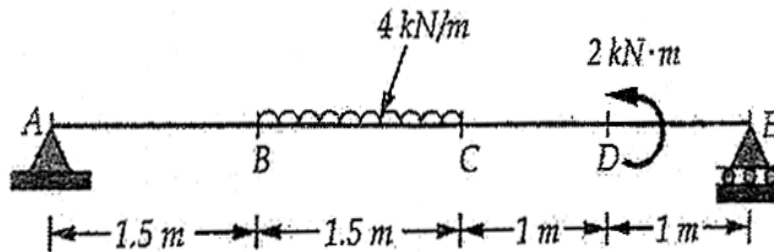

Fig. 2
- (b) Draw shear force and bending moment diagrams [SFD and BMD] for a single side overhanging beam subjected to loading as shown in the Fig. 2 given below. Locate points of contra flexure, if any. [6]